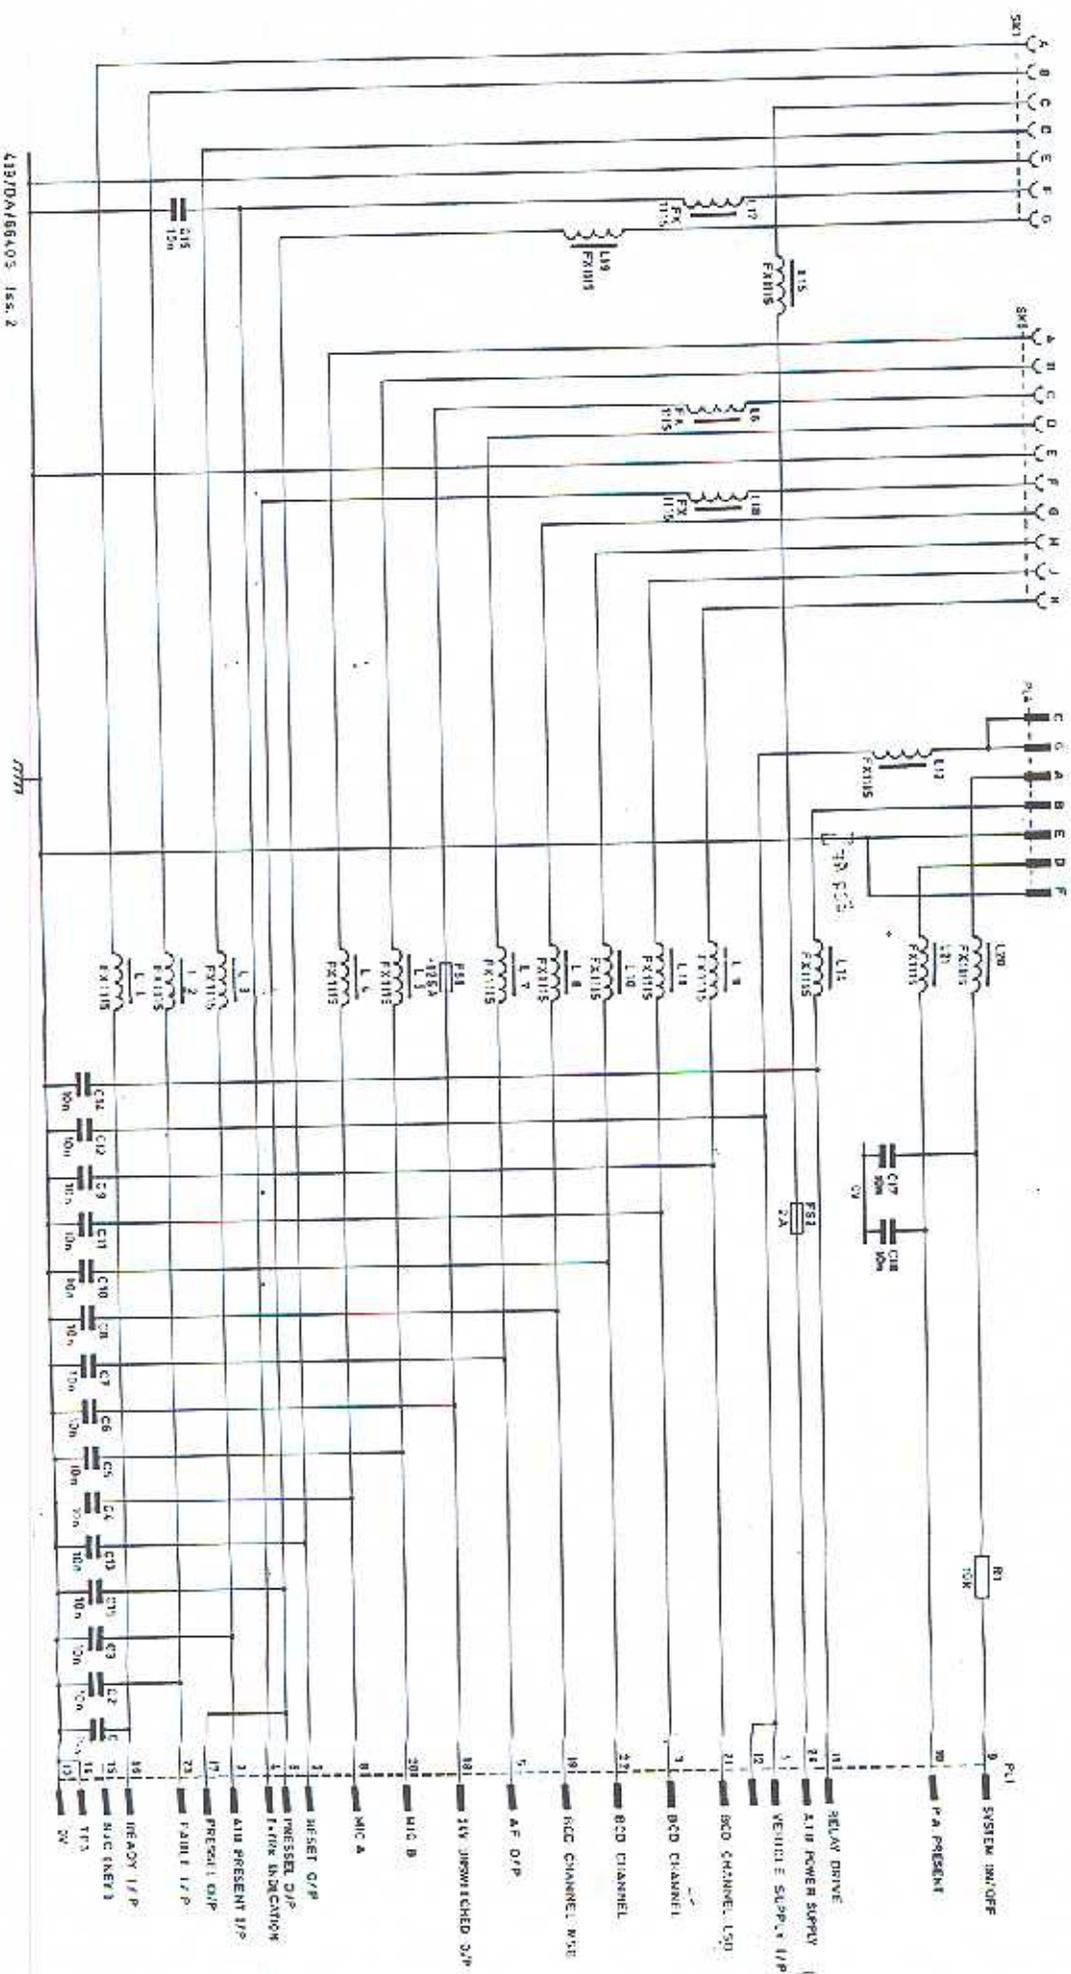

Fig. 1
1. The Filter Board is equipped with bead ferrite inductors and ceramic capacitors to provide decoupling of any ancillary equipment connected to the rear panel connectors on the radio. A circuit diagram of the board is given in Figure 1.
5. A circuit diagram of the IF Board is given in Figure 1. The transmit and receive circuitry are treated separately in the following description.